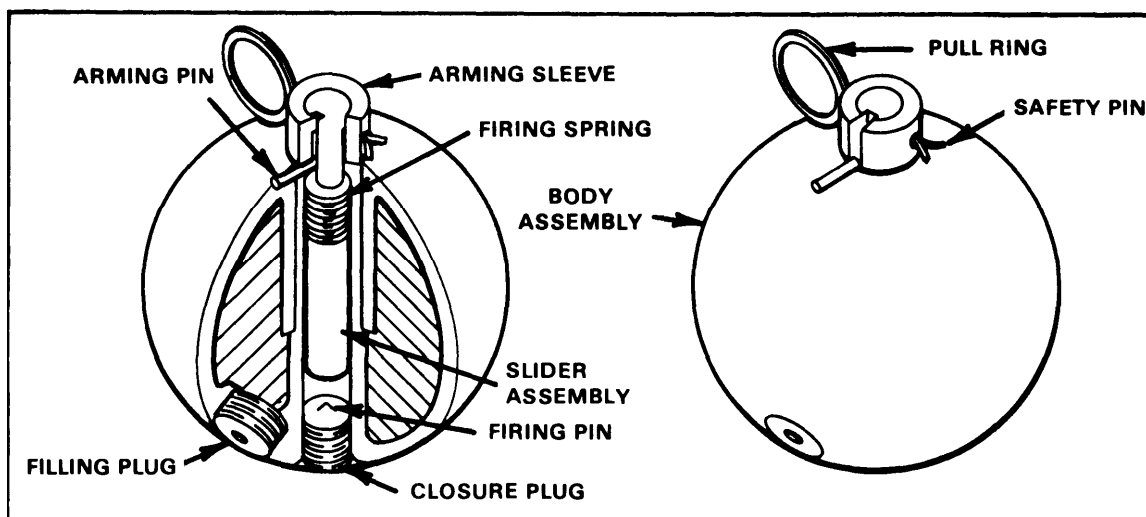

Figure 1-15. ABC-M25A2 riot control grenade.
b. ABC-M25A2 (Figure 1-15). The ABC-M25A2 riot control hand grenade is a bursting munition with an integral fuze. The M25A2 grenade is an improved version of the M25A1 grenade. The two grenades differ primarily in body construction.
- (1) Body -- compressed fiber or plastic.
- (2) Filler -- CS1 varies in weight and composition according to the type of agent contained in the grenade. All fillers are mixed with silica aerogel for increased dissemination efficiency.
- (3) Fuze -- integral, see paragraph 1-4.
- (4) Weight -- 8 ounces.
- (5) Safety clip -- no.
- (6) Capabilities -- can be thrown 50 meters by average soldier. The radius of burst (visible cloud agent) is about 5 meters, but grenade fragments may project as far as 25 meters.
- (7) Color/markings -- gray body with red band and red markings.